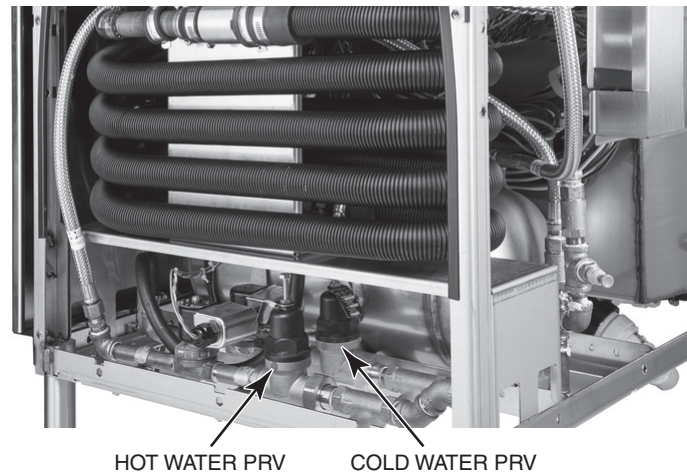

Fig. 18
7. While the machine is filling thru the final rinse, adjust the final rinse hot water pressure regulating valve (Fig. 18) until the final rinse pressure gauge reads 20 ± 5 PSI.